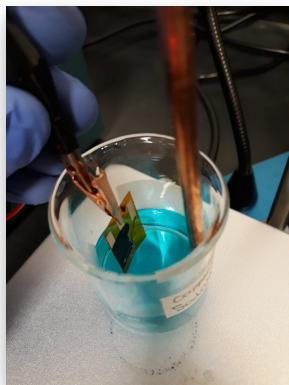

Figure 8
- a. Prepare a 20mL solution of 250mM copper (II) sulfate CuSO_4 and 2.50mM sodium sulfate Na_2SO_4 .
- i. When the circuit is off (only the green light is on), immerse the electrodes into the electroplating solution. Keep the electrodes in the solution until 1 cycle is completed (the red light turns on for 1 second and then turns off) and remove the electrode (shown in *figure 8*). During the electrodeposition, verify that there is a change of color on the surface of the working electrode due to the dispersion of bubbles. If this does not happen, discard the electrode and verify that all the connections are correct.